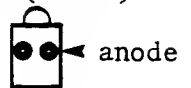

FIG. 1. A PORTION OF AN ASSEMBLY GUIDE.
Use the guide as a shopping list. Refer to Fig. 1, A Portion of an Assembly Guide. Check off each component purchased in the space provided on the guide. Circle the appropriate component placement number after it has been installed. Some peripheral cards have the silk-screened labels printed directly under socket placements making it impossible to know which integrated circuit (IC) to install. Refer to the component placement layout for IC positioning.